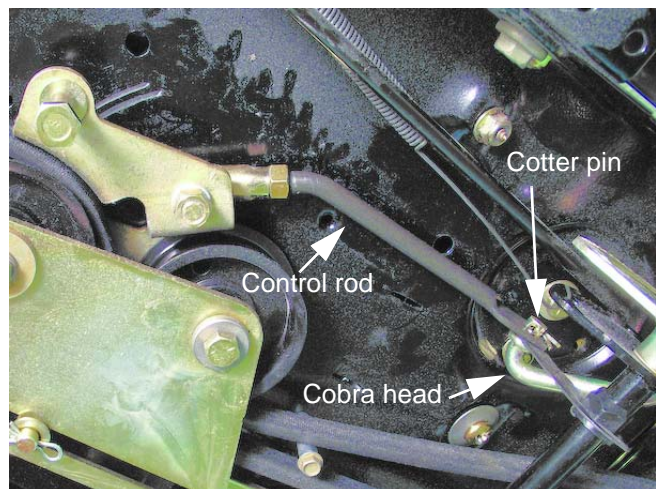

Figure 5.24
4. Remove and discard the cotter pin that holds the double idler pulley control rod to the "cobra head" arm on the drive control pedal. See Figure 5.24.